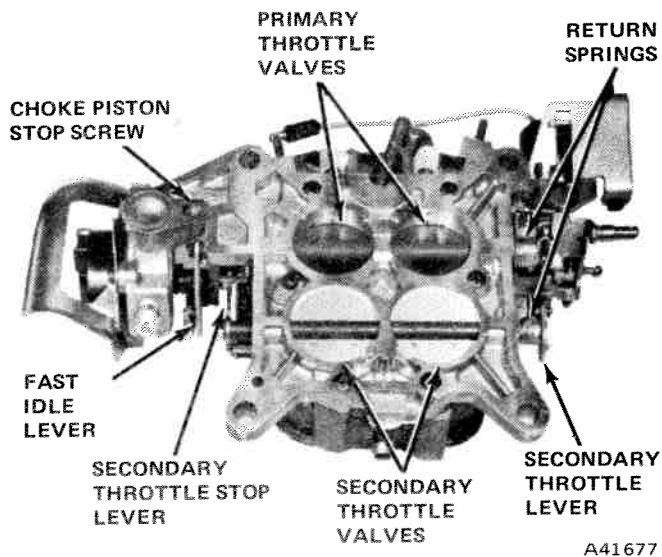
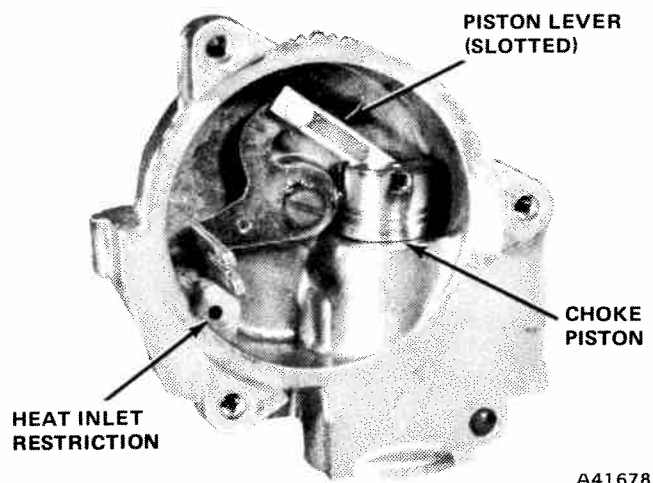

Fig. 4-68 Throttle Body - Bottom View
Fig. 4-69 Choke Housing
(16) Remove accelerating pump inlet check ball retainer, then turn main body over and catch ball from pump well.
(17) Remove throttle body to main body screws from bottom of throttle body (fig. 4-68) and separate the two castings.
(18) Remove choke housing cover screws, cover, gasket, and thermostatic spring.
(19) Remove choke piston lever retaining screw, and remove piston assembly (fig. 4-69).